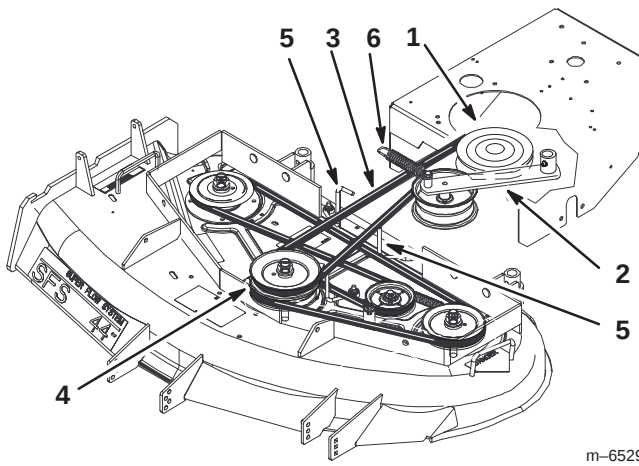

Figure 62
4. Remove the idler spring from idler arm. Remove the drive belt from the PTO engagement pulley and the center spindle pulley (Fig. 62).
5. Remove the worn drive belt (Fig. 62).
6. Install the new drive belt onto the PTO engagement pulley and the top groove of the center spindle pulley (Fig. 62).
7. Install belt onto idler pulley and then install idler spring (Fig. 62).
8. Adjust PTO drive belt guides an 1/8 inch (3 mm) from belt (Fig. 62).